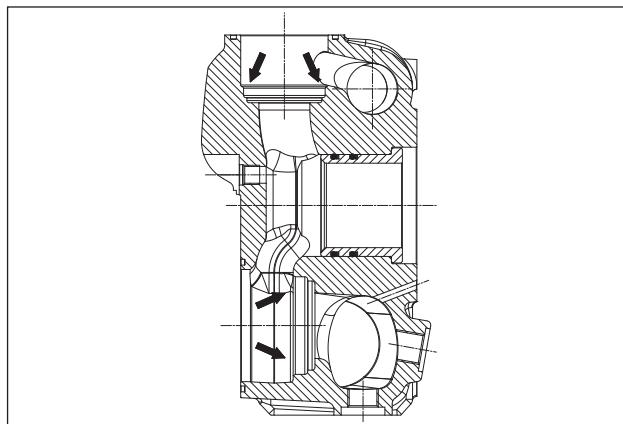

Fig. 145
Before repositioning the valve units, thoroughly clean and dry the relative housings on the head indicated by the arrows (pos. ①, Fig. 145).